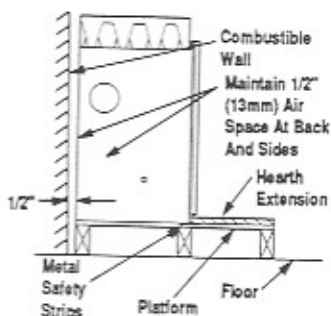

Figure 4
Step 2. Insert the metal safety strips, packaged with the fireplace, beneath the fireplace as illustrated (Figures 4 and 5). The safety strips should overlap for continual coverage of the floor.